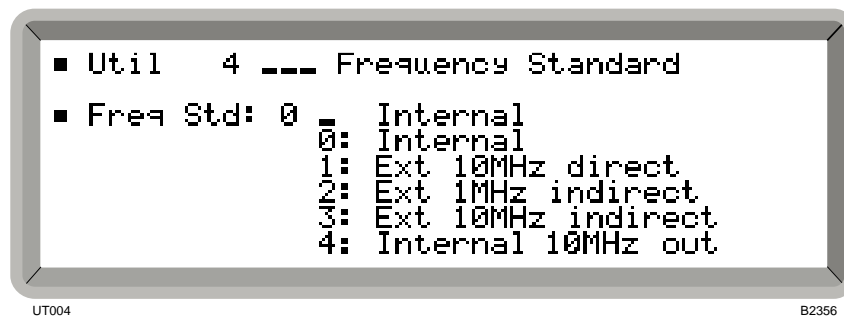

Fig. 4-11 Frequency standard menu
- (4) Highlight utility 4 *Frequency Standard* and press [SELECT]. This displays the 3rd-level menu used for internal and external standard selection shown in Fig. 4-11. A flashing cursor awaiting entry is shown against the current selection.